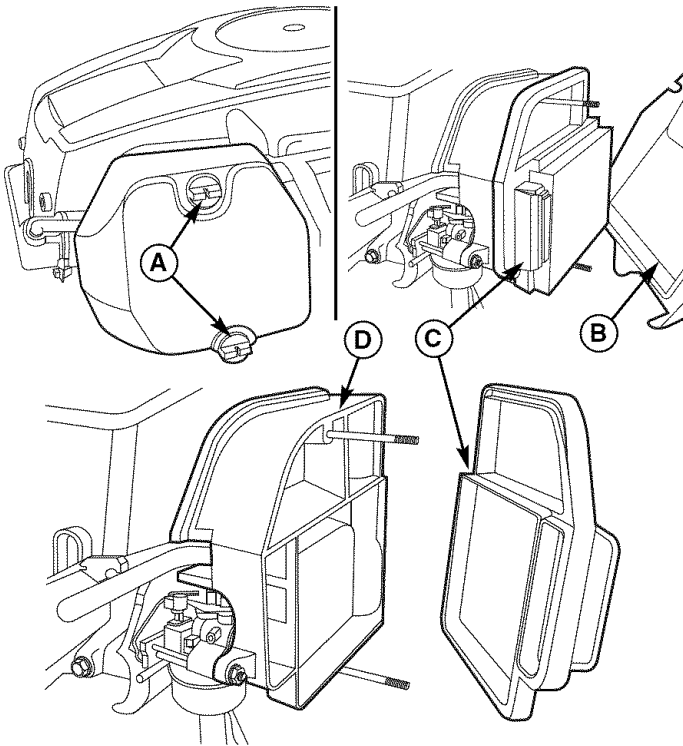

Figure 28. Air Filter Assembly
1. Loosen the air filter cover knobs (A, Figure 28) and remove the cover (B). Clean out any debris from around the air filter. Inspect the condition of the sealing surfaces of the air filter element (C) and filter base (D). Replace any damaged parts.
2. Remove the air filter element (C).
3. Install the new air filter element with the pleated side out and seat it onto the edges of the air cleaner base (D).
4. Reinstall the air filter cover (B) and secure with the two knobs (A).